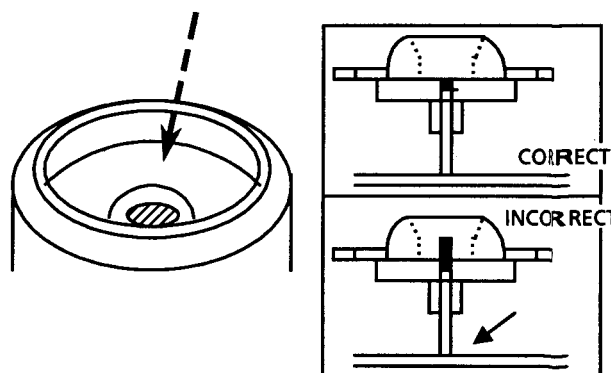

Fig 13
- (12) After inserting the turntable, bond the motor shaft and turntable together (at the section marked by an arrow in fig 13 on the left below).
- (13) Use "LOCKTITE" #460 bonding agent, and apply as little as possible. Take care not to allow any excess bonding agent to get on to the turntable. Be extremely careful not to allow bonding agent to adhere to the motor bearing (the section marked by an arrow in fig 13 on the right).